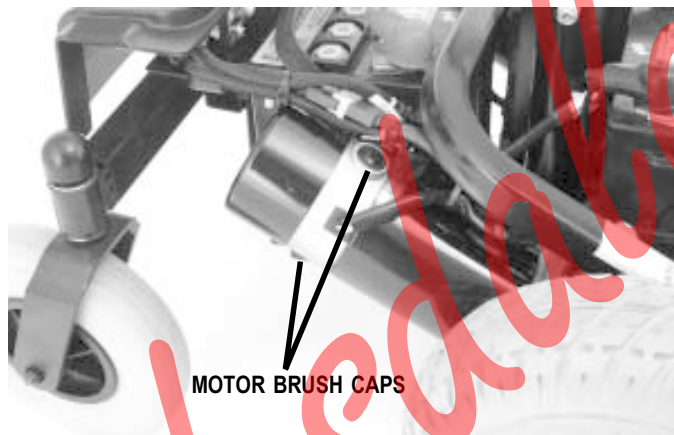

Figure 24. Motor Brush Caps
2. Unscrew the motor brush caps. See figure 24.